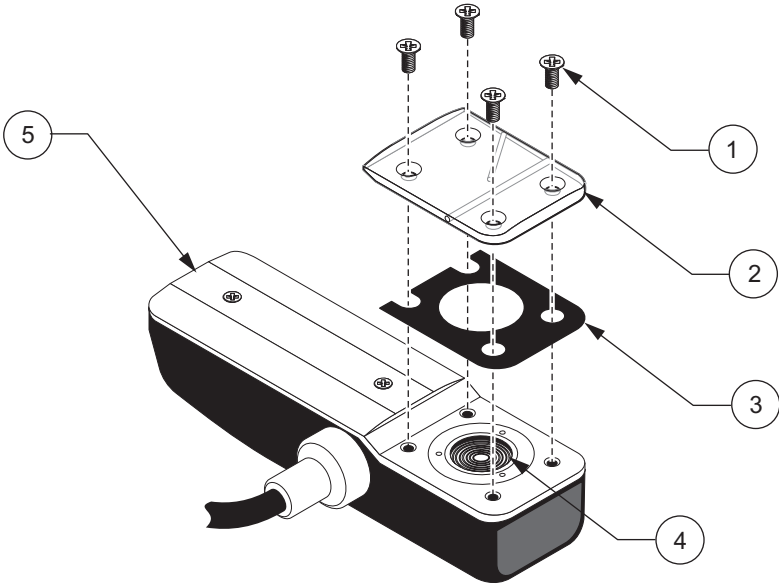
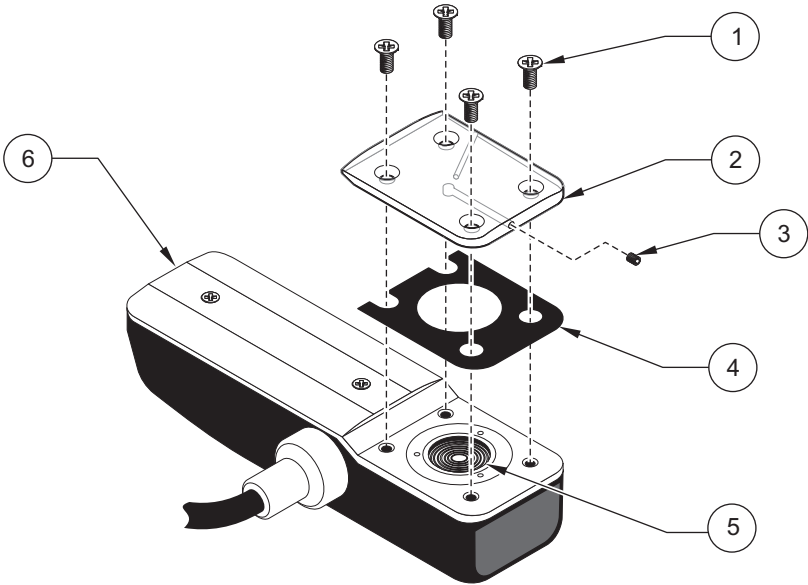

Figure 36 Removing the Protective Cover (Non-Oil Sensor)
Figure 37 Removing the Protective Cover (Oil-filled Sensor)
2. Remove the screws from the protective cover (Figure 36 and Figure 37 on page 63).
6. Reattach the gasket and the cover (note orientation in Figure 37 on page 63). Tighten the screws until the gasket starts to compress.